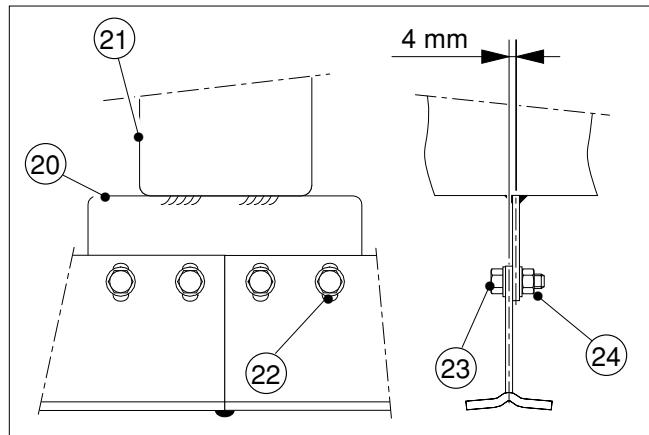

fig.14.1
See figure 14.1.
- See figure 14.1.